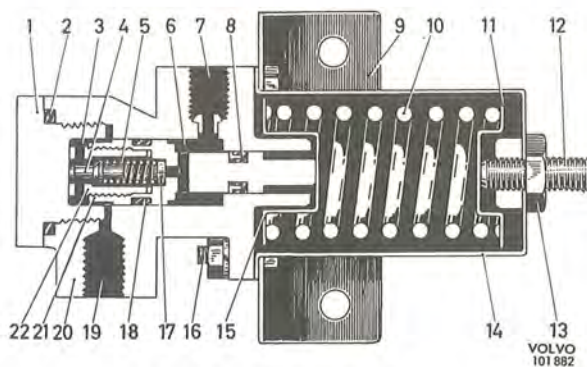
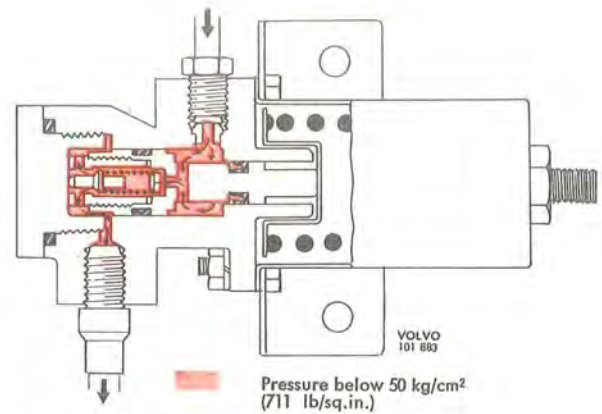

Fig. 5-41. Brake valve, construction
Fig. 5-42. Brake application
A brake valve is connected to each of the rear wheel brake lines, see Fig. 5-6. When the ingoing brake pressure exceeds 50 kg/cm² (711 lb/sq.in.) a reduction takes place in the valve. The more powerful the pedal pressure, the greater will be the reduction and thereby the larger the difference between the hydraulic pressure in the front wheel and rear wheel cylinders. This results in a suitable distribution of braking force between both pairs of wheels. The construction of the brake valve is shown in Fig. 5-41 and its function is the following.
When the footbrakes are applied, the pressure from the master cylinder is transmitted via the connection (7, Fig. 5-41). The pressure then proceeds through the cylinder (6), the counterbore, past the valves (17) and (4) to cylinder (3) and then on through connection (19) to the rear wheel cylinders, see Fig. 5-42. The hydraulic pressure per unit surface is equal on the different parts of the piston (21), but since its pressure surface is larger in cylinder (3) than in cylinder (6), the force developed will move the piston to the right of the figure. However, this is counteracted by the pressure from the spring (10).
in cylinder (6) moves the piston to the left so that the valve rod comes up against its stop and opens the valve this causing the pressure in cylinder (3) to increase. Due to the larger pressure surface in this cylinder, the plunger is moved to the right again and the valve closes. In this way, the piston assumes a position of balance and the outgoing pressure from the brake valve will be lower than the ingoing pressure, see Fig. 5-42. The difference in these pressures is determined by the different areas and spring tension.
When the brake pedal is released, the pressure in the cylinder (6) falls. The piston (21) is moved to the right by spring (10). When the pressure on the right-hand side of the valve (4) falls so much that the hydraulic pressure on the left-hand side enables the valves to be actuated, the connection between both the cylinders is opened again. As the pressure falls, spring (10) presses the left piston back to its original position where the valve is held in the open position by mechanical means, see Fig. 5-41. The equalizing valve (17) is fitted with control channels which ensure an even flow of pressure through the valve.